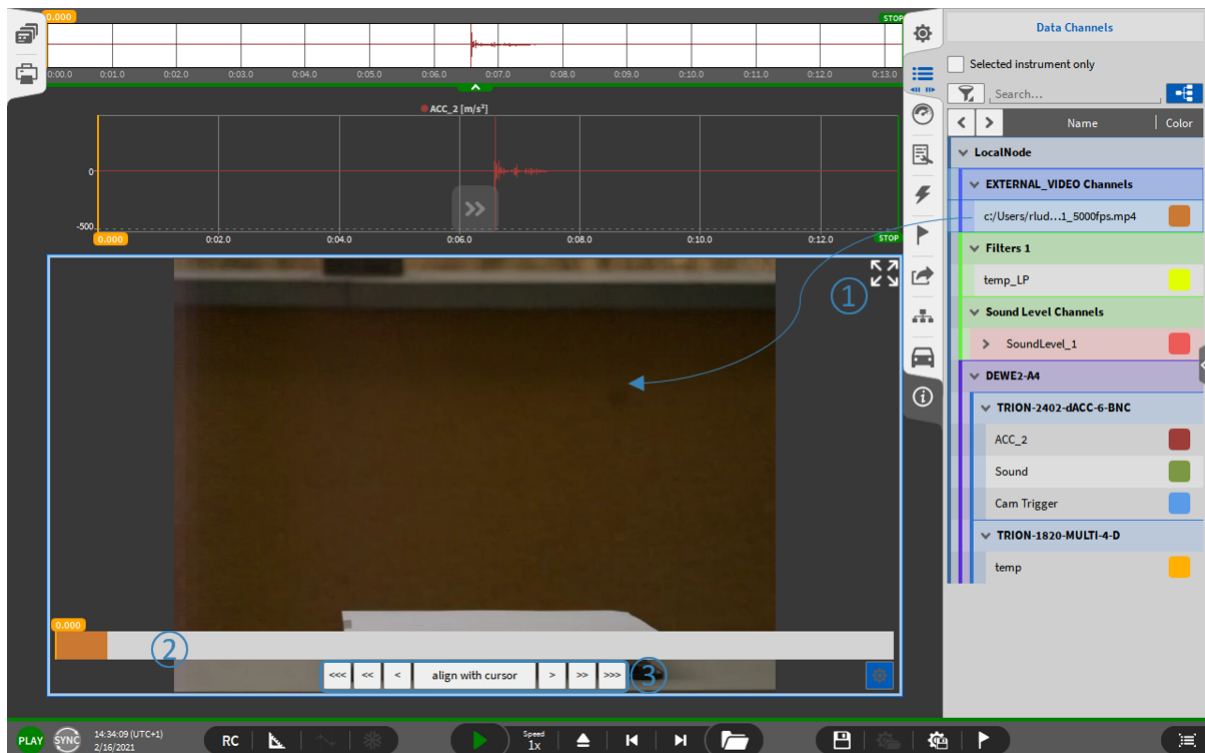

Fig. 7.169: Manual delay compensation between video and sensor data
1. Go to the measurement screen and drop the external video channel to the measurement screen (see ① in Fig. 7.169). This will create a video instrument including the video.
The timebar shows the actual position of the video within the OXYGEN data file (see ② in Fig. 7.169)
2. The buttons (see ③ in Fig. 7.169) can be used to change the position of the video within the data file